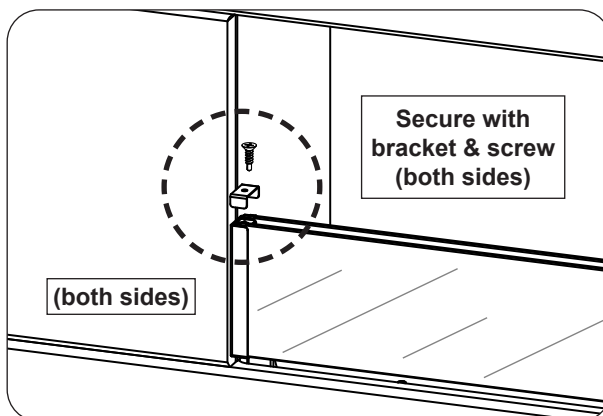

Fig. 32-4 Place top brackets and secure
4. Place a top bracket, and then secure it using a provided screw and a small-sized Phillips screwdriver. See Fig. 32-4.